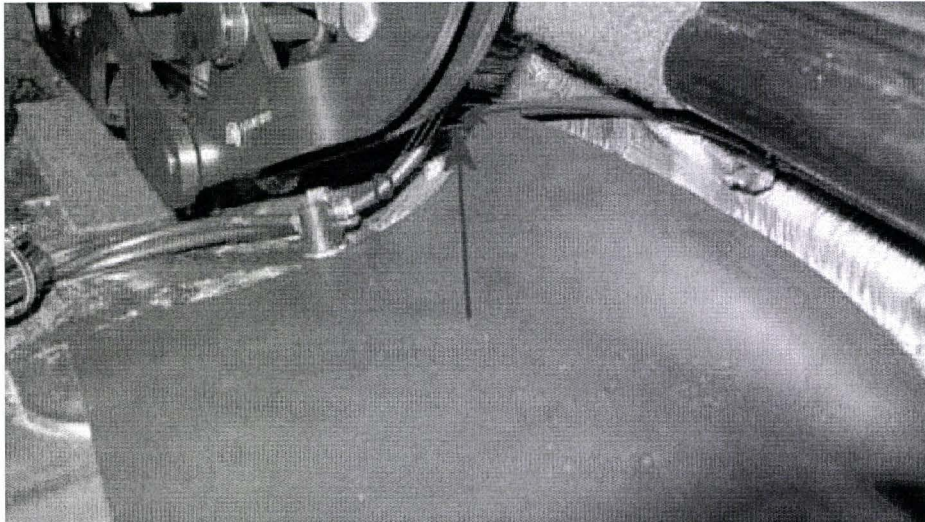

Figure 6
4. Ensure the new Bowden cable, arrowed, passes under cable cluster D (see Figure 6)